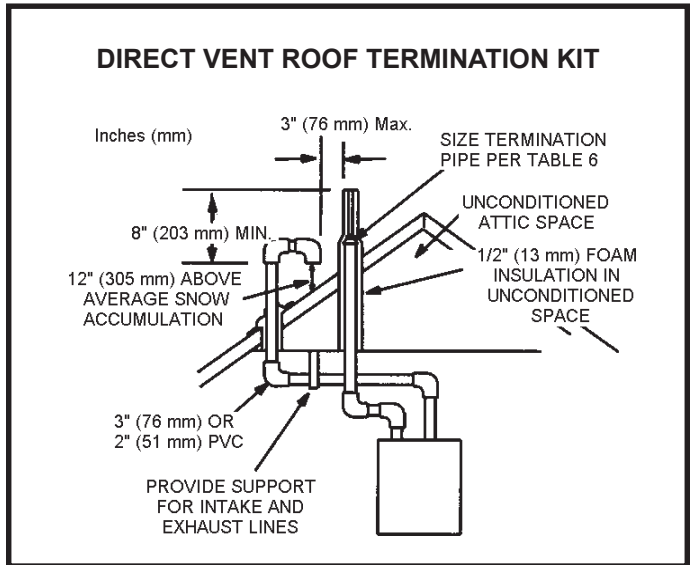

Figure 23
Intake and exhaust pipes may be routed either horizontally through and outside wall or vertically through the roof. In attic or closet installations, vertical termination through the roof is preferred. Figures 23 through 29 show typical terminations.
3. On roof terminations, the intake piping should terminate straight down using two 90° elbows (See Figure 23).